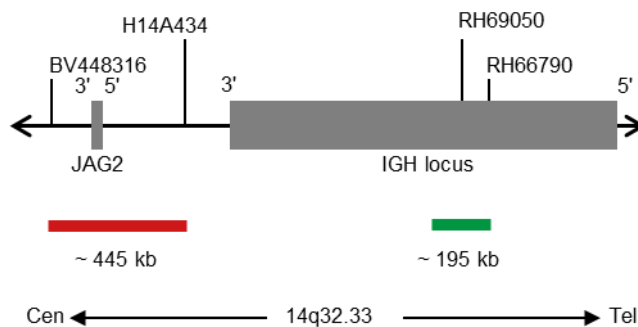

Fig. 1: SPEC IGH Probe map (not to scale)
- Digoxigenin-labeled polynucleotides (~0.50 ng/ μ l), which target sequences mapping in 14q32.33* (chr14:106,690,778-106,883,535) distal to the IGH breakpoint region (see Fig. 1).
- Dinitrophenyl-labeled polynucleotides (~0.75 ng/ μ l), which target sequences mapping in 14q32.33* (chr14:105,462,169-105,909,611) proximal to the IGH breakpoint region (see Fig. 1).